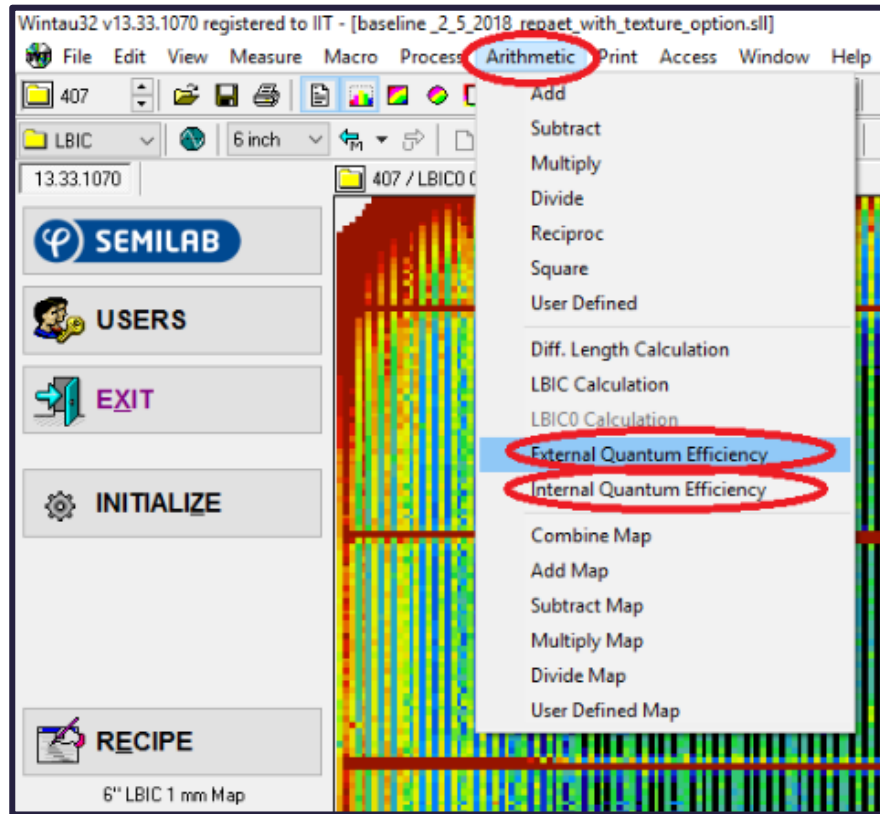

Figure. 20
20. Go to “ARITHMETIC” menu and choose “External Quantum Efficiency” or “Internal Quantum Efficiency”. (Figure. 20)